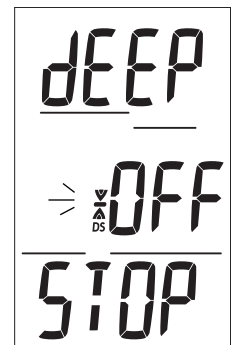

Fig. 30 - Set DS
Set Deep Stop (DS), information includes (Fig. 30):